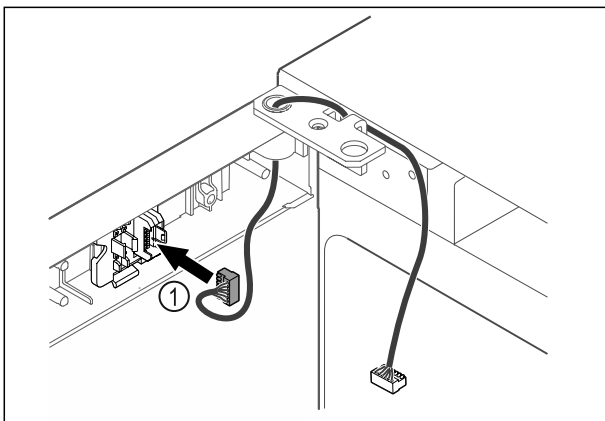

Fig. 36
- ▶ Put the plug Fig. 36 (1) in the plug holder.